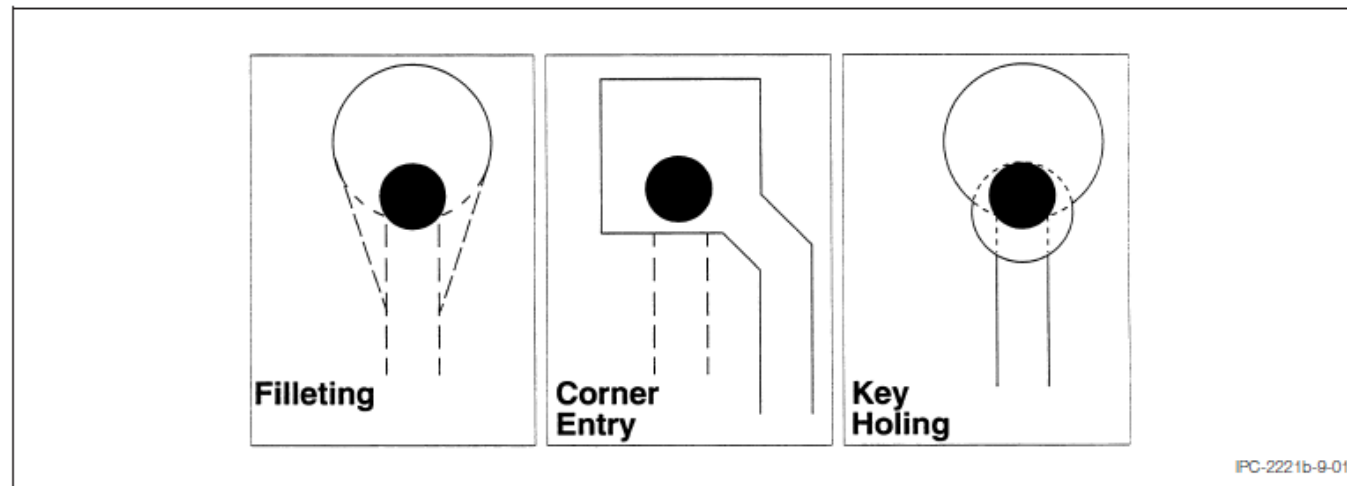

Figure 9-1 Examples of Modified Land Shapes
- Class3 type PCBs require a min Annular Ring (AR) for all Plated Through-Holes (PTHs) per section 9.1.2 & Figs 9-1 & 9-2, shown below: